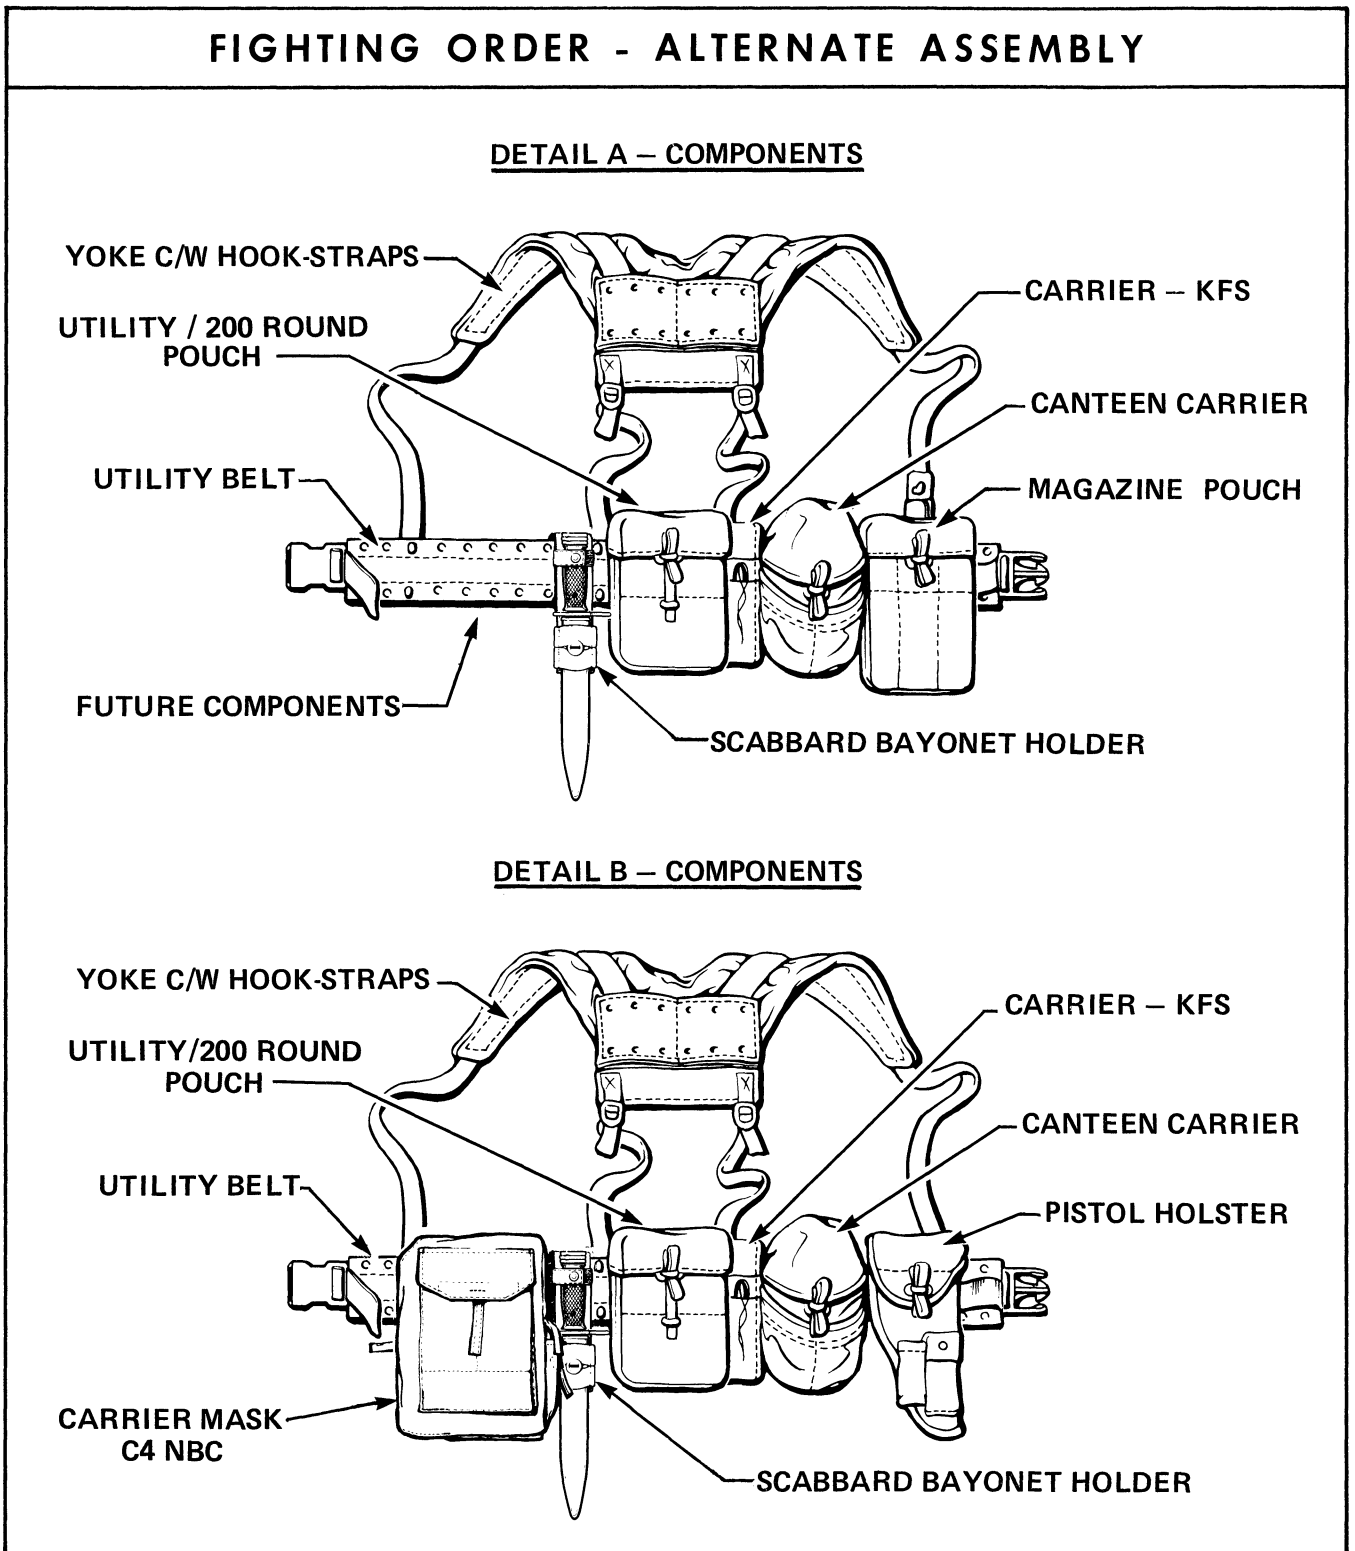

Figure 2-4 Fighting Order – Alternate Assembly
4. The Fighting Order alternate assembly is illustrated in Figure 2-4.